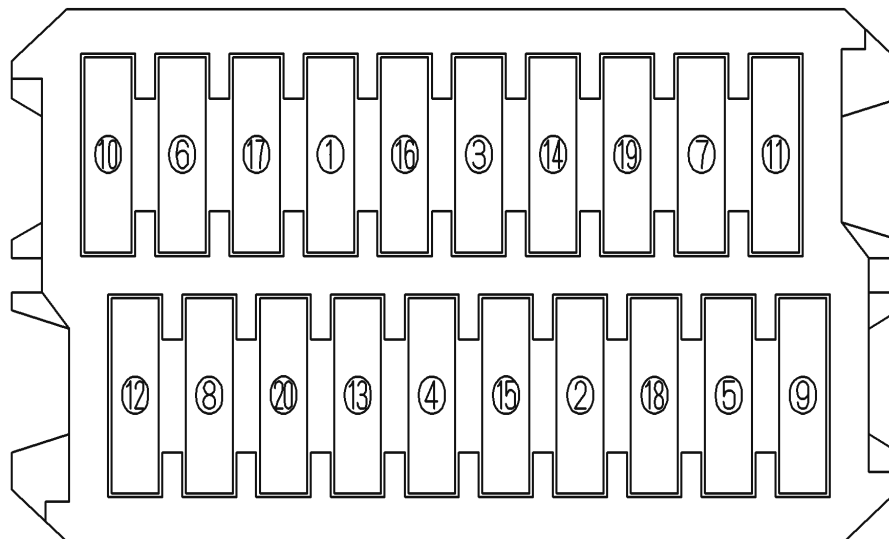

Figure 6.4 Fraction packaging
- (1) Put the conductivity bag into the multi-box, in addition put the cushion (lower) into the bag.
- (2) Put unitary packaging (FCELL) in the cushion (lower).
- For less than 20 HDDs, insert the HDDs starting from the slot with the smallest number in Figure 6.4. Then place the empty FCELL in the empty slot.
- (3) Hold the HDD with the cushion (upper)
- (4) Put the desiccant (100g) into the conductivity bag
- (5) Put the long desiccant between the cushion (upper)
- (6) Seal the conductivity bag with the packaging tape
- (7) Close the cardboard box with the packaging tape